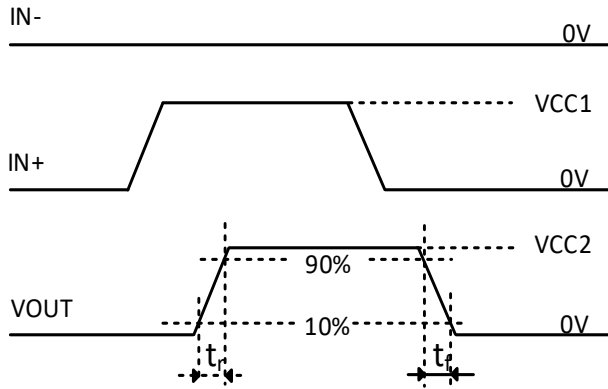

Figure20. Transition time waveform measurement
(2) tr means is the time from 10% amplitude to 90% amplitude of the rising edge of the signal, tf means is the time from 90% amplitude to 10% amplitude of the falling edge of the signal. See Figure20.